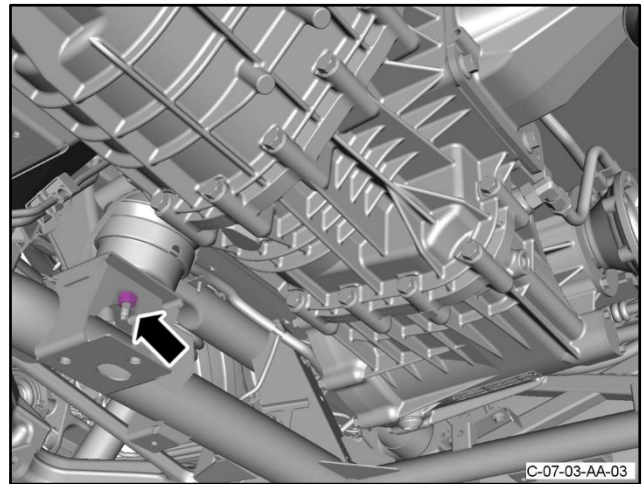

Figure 57
- 112.** Install the nut that attaches the right side transaxle mount to the rear subframe (refer to Figure 57). Torque the nut to 48 Nm.